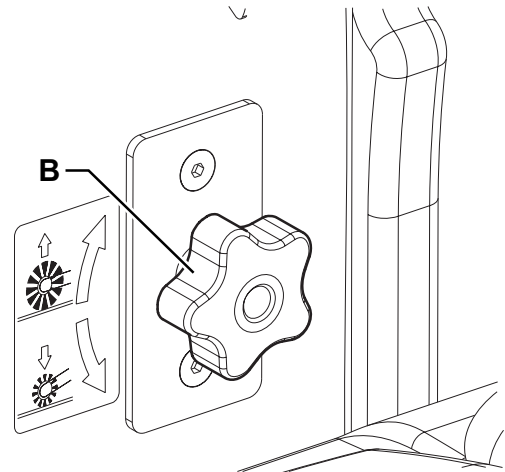

Figure 7
2. Turn the knob (A, Fig. 7) as shown below:
- to decrease the print length lift the broom with the lever (63) and then turn the knob clockwise.